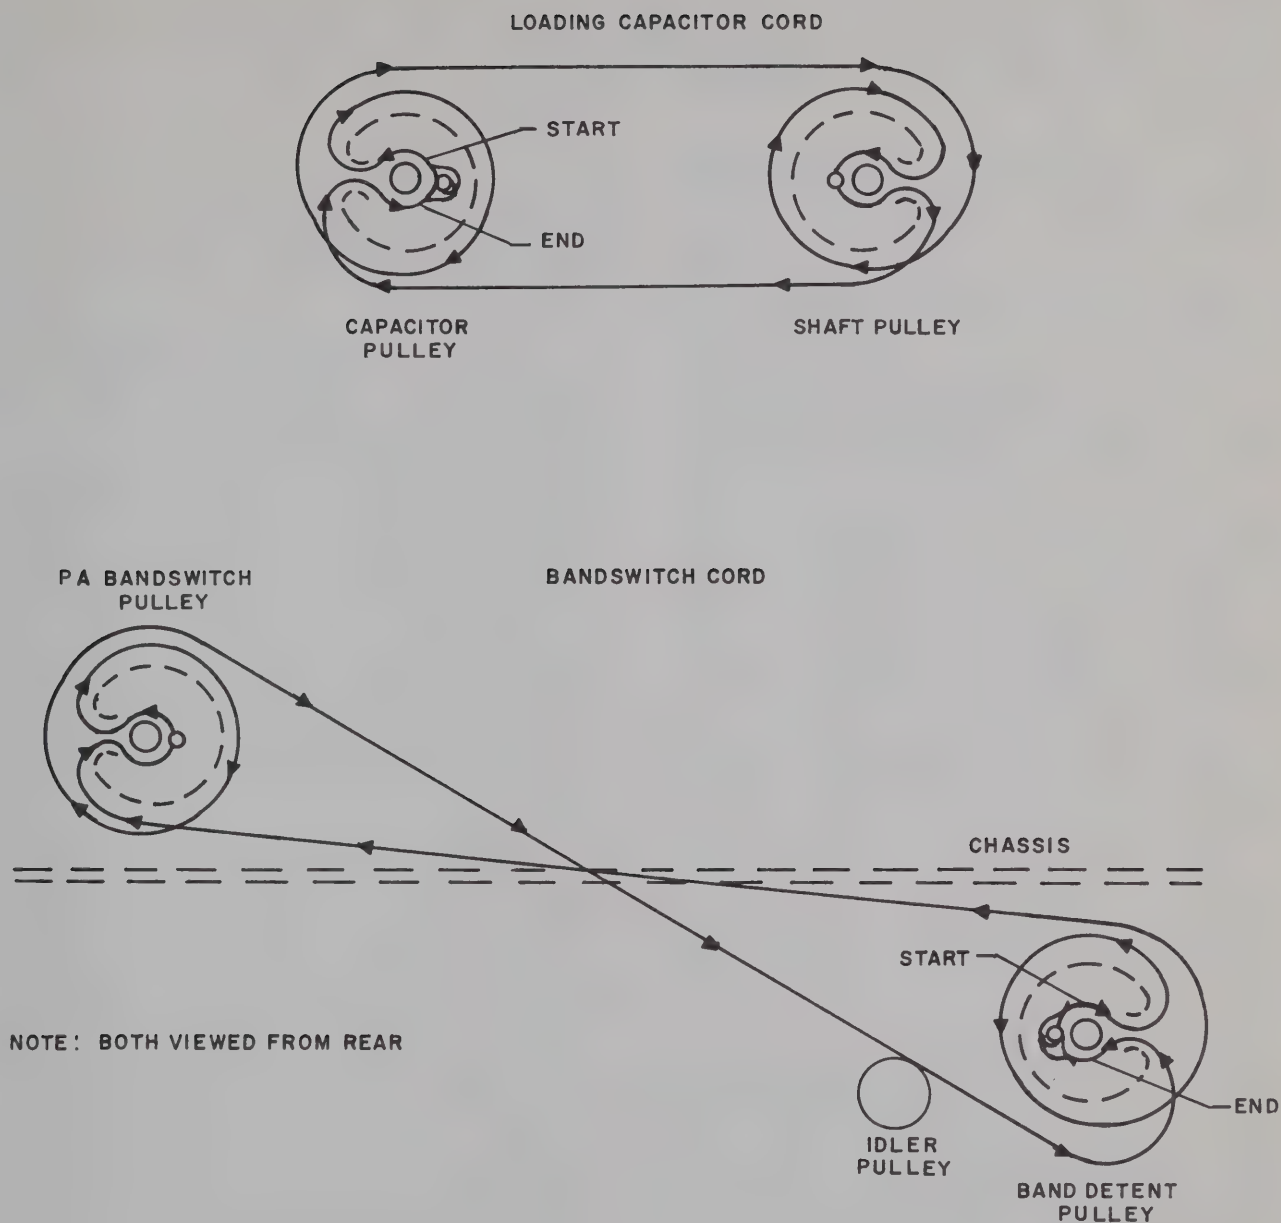

Figure 4-3. Dial Cord Stringing Diagram
4.5 DIAL CORD REPLACEMENT. (Refer to figure 4-3.)
d. String the cord according to the appropriate part of figure 4-3. Make sure the cord turns do not overlap on the pulleys. Pull the cord tight and tie to the tab. Make sure a short piece of spaghetti is slipped over the plastic covered cord so that it acts as extra insulation under the tab. This prevents r-f currents from melting the plastic and shorting the wire core to ground. Mash the tab down to clamp the cord securely. Tighten the idler to bring the cord to tension.
d. String the cord according to the appropriate part of figure 4-3. Make sure the cord turns do not overlap on the pulleys. Pull the cord tight and tie to the tab. Make sure a short piece of spaghetti is slipped over the plastic covered cord so that it acts as extra insulation under the tab. This prevents r-f currents from melting the plastic and shorting the wire core to ground. Mash the tab down to clamp the cord securely.